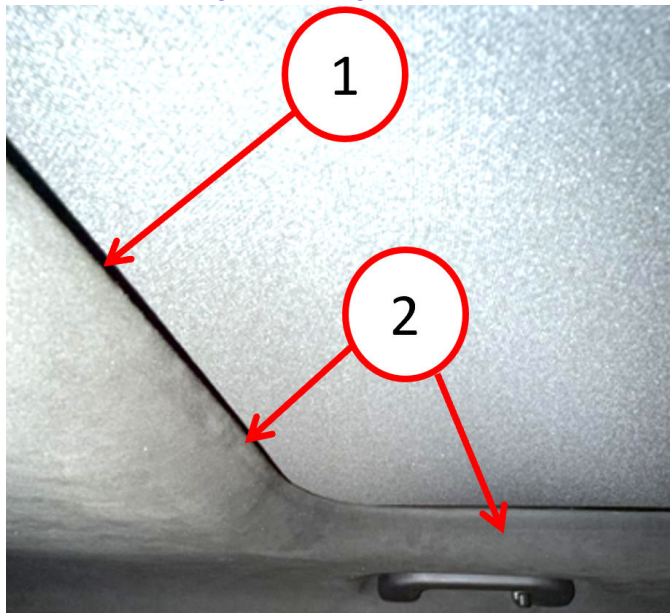
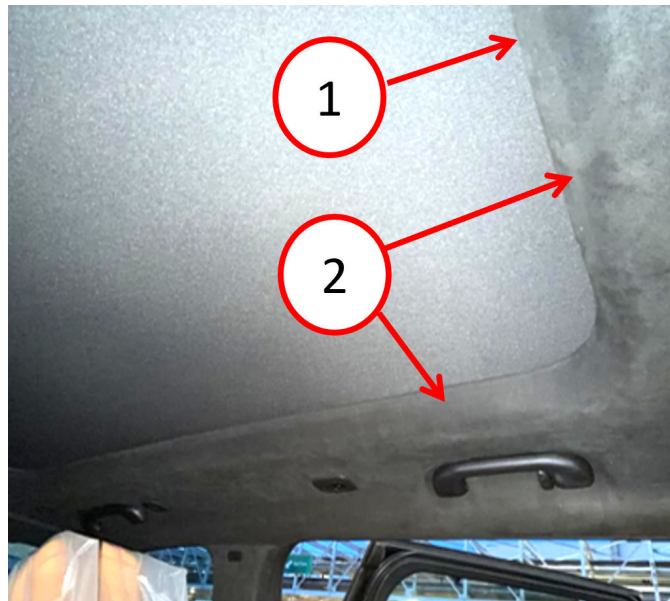

Fig. 2
Fig. 3
2. From the rear of the sunroof opening, release the four hook and loop fasteners from around the sunroof opening by pulling down on the headliner Fig. 2 and Fig. 3.
7. Fasten the headliner to the four hook and loop fasteners Fig. 2 and Fig. 3.